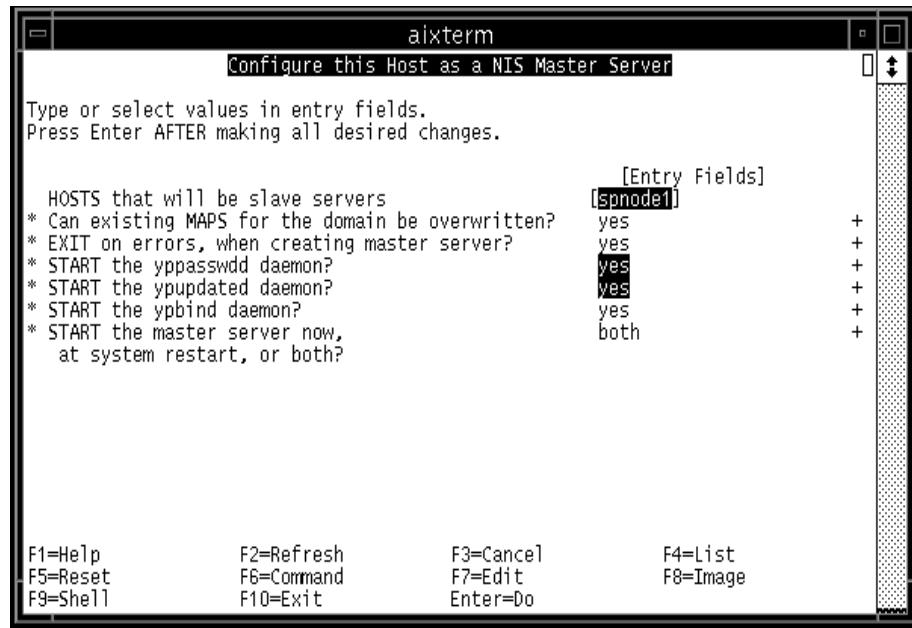

Figure 45. SMIT Panel for Configuring a Master Server
- On the machine that is to be the NIS master (for example, the control workstation), select **Configure/Modify NIS** and then **Configure this Host as a NIS Master Server**. Figure 45 on page 81 shows the SMIT panel. Fill in the fields as required. Be sure to start the `yppasswd` and `ypupdated` daemons. When the SMIT panel is executed, all four daemons: `ypbind`, `ypserv`, `yppasswd`, and `ypupdated` are started on the master server. This SMIT panel also updates the NIS entries in the local `/etc/rc.nfs` file.